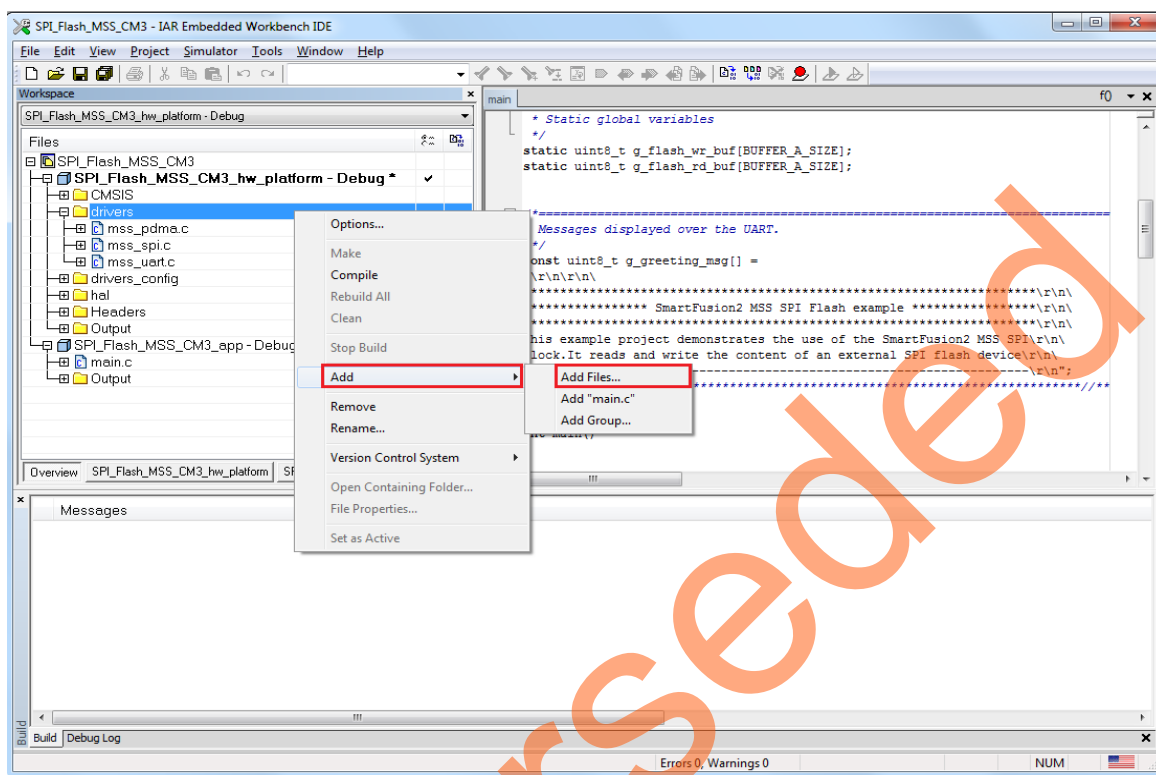

Figure 23 • IAR Workspace Window - Add winbondflash SPI Driver Files
7. Right-click and add the driver files (winbondflash.c & winbondflash.h) to the SPI_Flash_MSS_CM3_hw_platform project in the IAR workspace as shown in Figure 23.